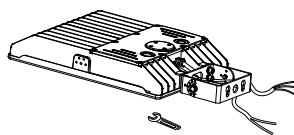
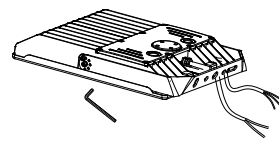

Figure 8
Figure 9
Step 2: Fix the bracket. (Figure 8)
**4. FLOOD MOUNTING (FM)**
Step 1: Take out the bracket; let the input wire go through the cover or the back cover of the light, then fix the cover and tighten the screws, fix the bracket on the fixture. (Figure 9)